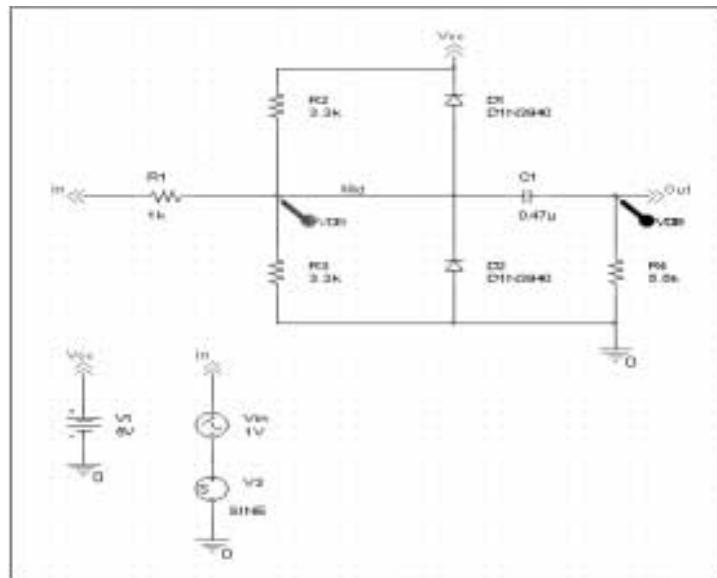

Figure 2-17 Clipper circuit with AC stimulus.
In this example, you will set up the clipper circuit for AC analysis by adding an AC voltage source for a stimulus signal (see Figure 2-17) and by setting up AC sweep parameters.
- 5 Place the AC voltage source on the schematic page, as shown in Figure 2-17.